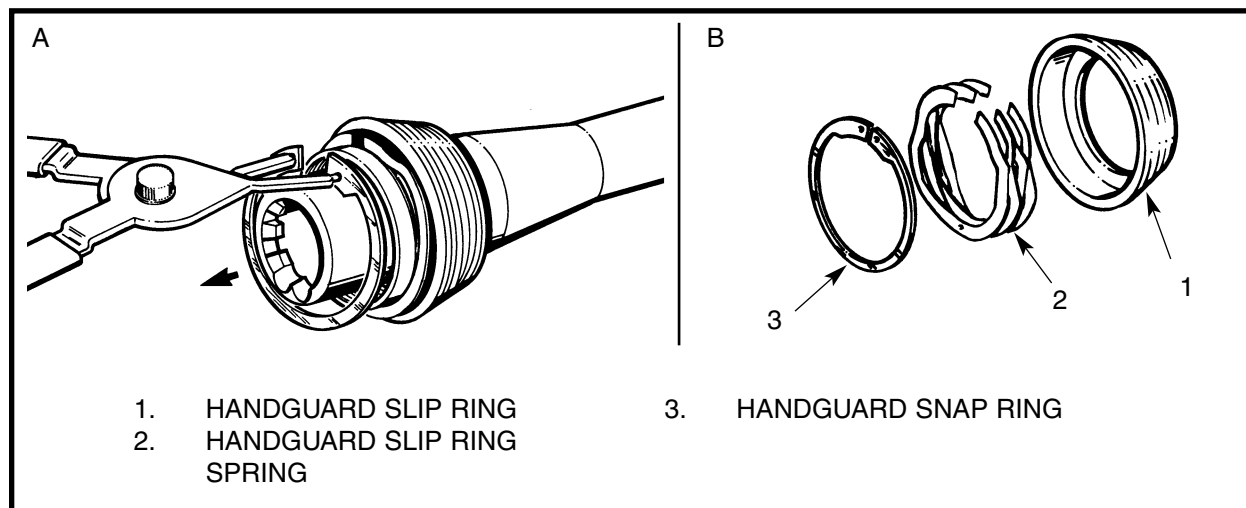

Figure 3-2-19 Disassembly of the Barrel Nut Assembly
c. To disassemble the barrel nut components, see Figure 3-2-19 and proceed as follows: